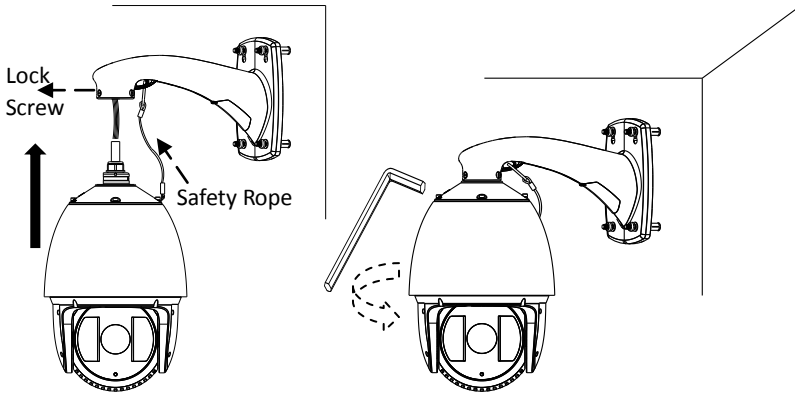

Figure 2-4 Secure the Speed Dome
- 1). Hang the safety rope to the speed dome and then hook to the mount as shown in Figure 2-4.